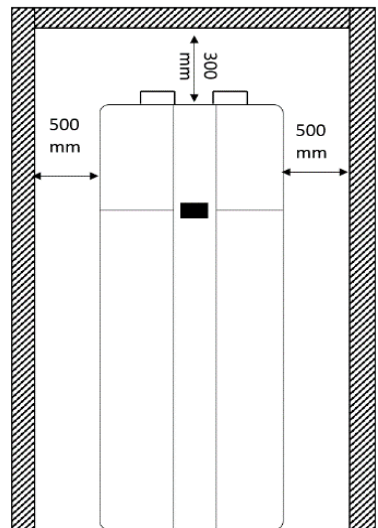

Figure 9 - Minimum distance from walls for not-ducted units
- The minimum distances described in Figure 9 should be respected.